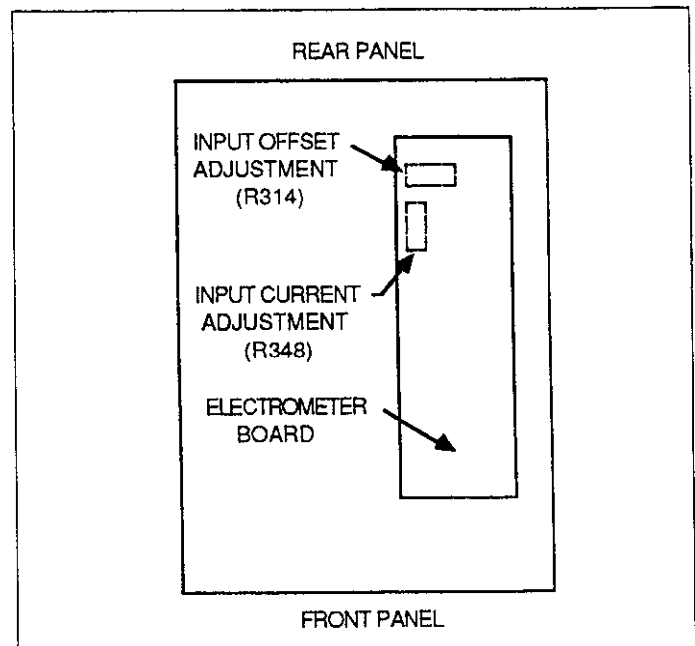

Figure 7. Input Offset Adjustment Locations (Model 617)
5. Locate the offset adjustment pot (R314) on the electrometer board (see Figure 7). The pot is accessible through a small hole in the shield closest to the rear of the instrument.
7. Locate the input current pot R348 on the electrometer board. It is accessible through a small hole in the shield (see Figure 7).